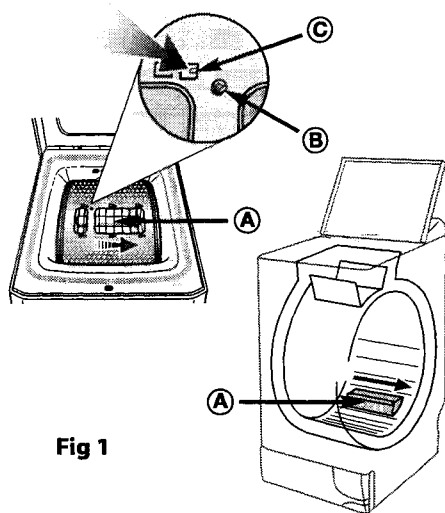

Fig 1
- 2 Rotate the drum so that the closed flaps are at the bottom, you will see a plastic part (A) Fig 1.
- 3 Remove screw (B) Fig 1. On some types of appliance, plastic part (A) is provided with a clip (C). In this case, unlock plastic part (A) by applying pressure to the clip while gently sliding it to the right. Rotate drum again and open the flaps.
- Open the door (1) at the front of the appliance, to do this:
- insert a screwdriver, as indicated (see Fig 1)
- Pull on yellow plug (2) to release drain spout
- Separate the plug from the spout (3) and allow the water to flow into a container.